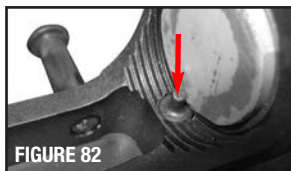

FIGURE 82
- Push in buffer (at the rear of the receiver / front of the stock) slightly and depress buffer retainer to release the buffer (FIGURE 82).